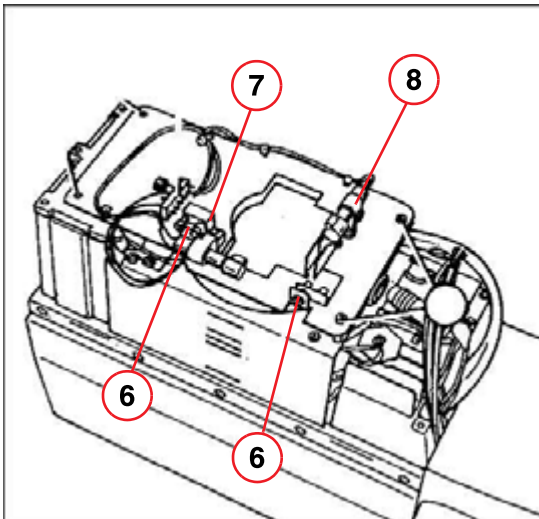

Fig. 5: I.I.
- Use the adjusters (6/Fig. 5 / p. 10) to align the laser light fan beams with the lines of the I.I. attachment. The laser light fan beams must now cross exactly at the hole of the pointer.
- Loosen the screws for laser diode V1 (7/Fig. 5 / p. 10) or the screw for laser diode V2 (8/Fig. 5 / p. 10).
- Retighten the screw (7/Fig. 5 / p. 10) or (8/Fig. 5 / p. 10).
- Secure the screws (7/Fig. 5 / p. 10) and (8/Fig. 5 / p. 10) with Loctite.